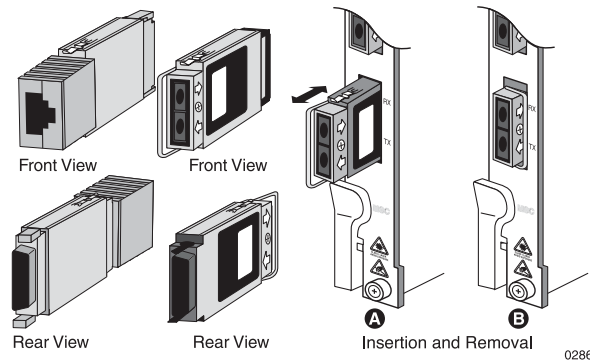
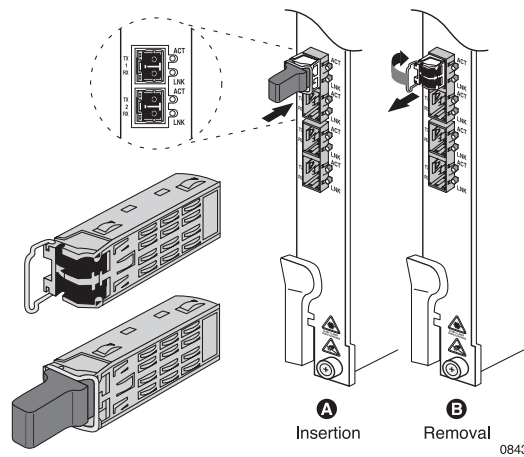
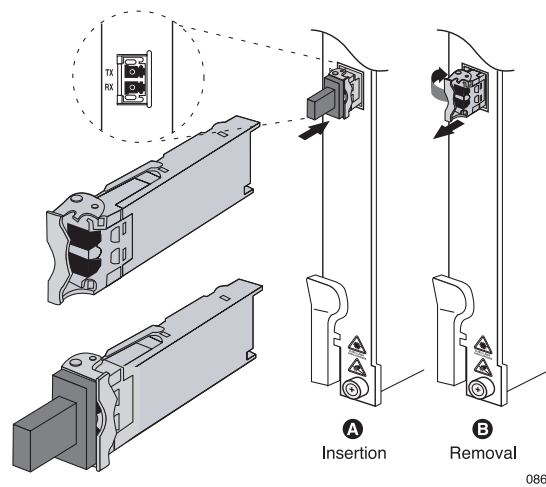

Figure 12 Installing a GBIC Transceiver
Figure 13 Installing an SFP Transceiver
Figure 14 Installing an XFP Transceiver
3. With the transceiver connectors aligned with the RX and TX labels on the front panel of the line card (as shown in Figure 12, Figure 13, or Figure 14), slide the transceiver into the opening for the port until the rear connector is seated and the locking mechanism snaps into place.